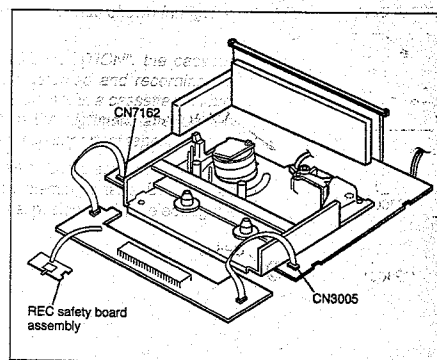

Fig. 1-4-3
- (7) Remove the SW/Display board assembly and the REC safety board (See 1.3 DISASSEMBLY/ASSEMBLY METHOD), then place them on the front side of the Main deck assembly and the Main board assembly which have been disassembled by procedure (6), and insert the flat wires into CN7162 and CN3005 of the Main board (see Fig. 1-4-3).
- (1) Insert a cassette halfway in the Cassette holder assembly.
- (2) Set the switch on the REC safety board assembly to ON (by pressing the switch).
- (3) As soon as the cassette starts to be loaded, set the switch on the REC safety board assembly to OFF (by releasing the switch).
- (4) Now the desired operation (recording, playback, fast forward, rewind, etc.) is possible in this status (the status shown in Fig. 1-4-3).
1.4.3 Cassette loading and ejection methods in the "SERVICE POSITION" (See Fig. 1-4-3).
NOTES: • When performing diagnostics of the tape playback or the recording condition in the "SERVICE POSITION", enter the desired mode before turning the set upside down, and do not change the mode when performing diagnostics while the set is placed upside down. If you want to switch the mode, turn the set to the normal position (the status shown in Fig. 1-4-3).